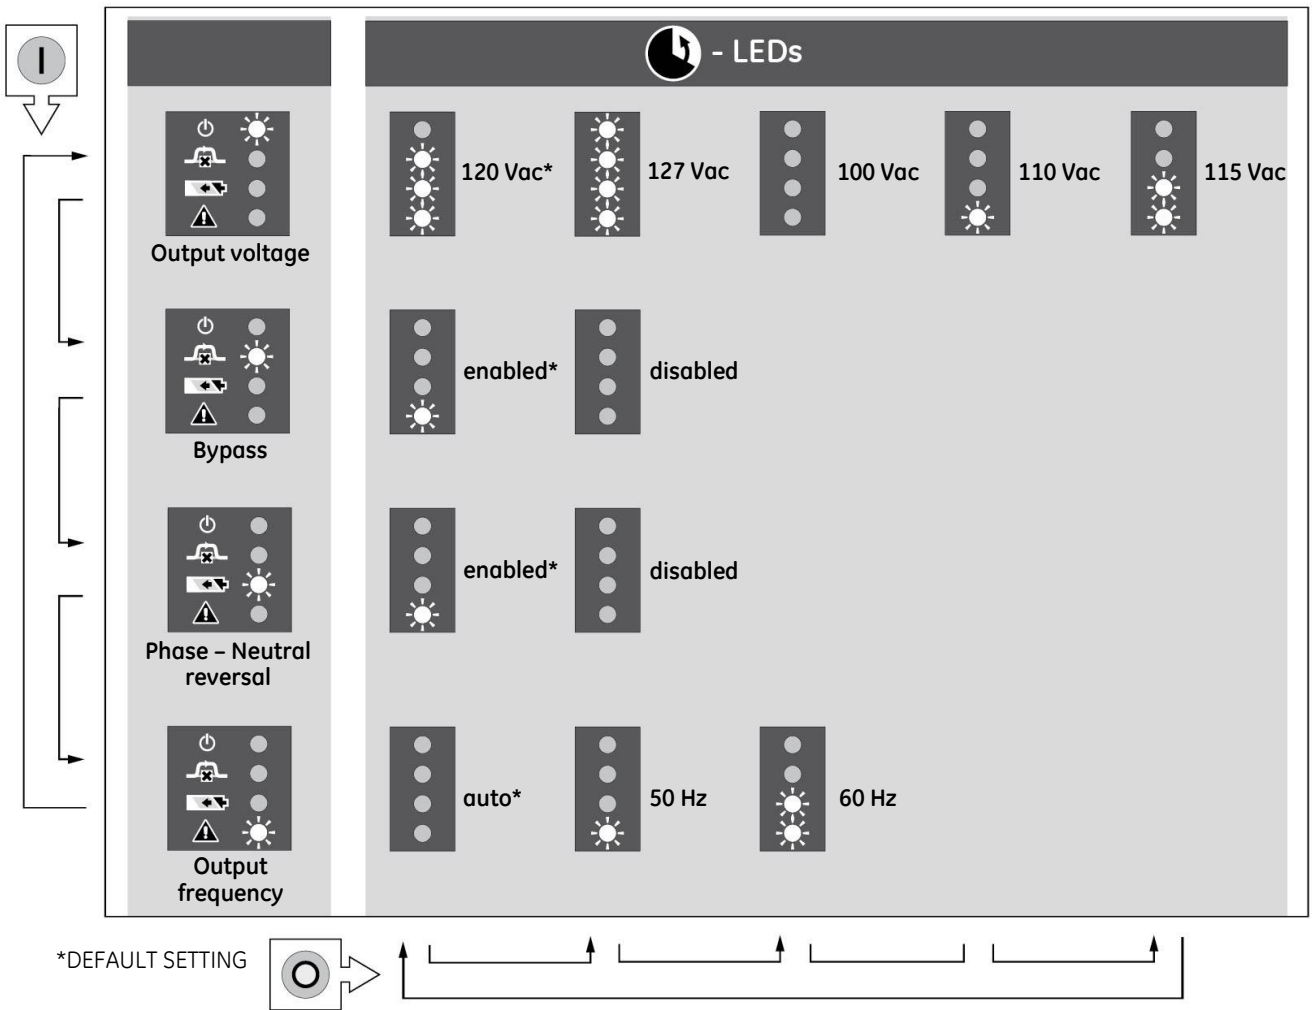

Fig. 4.5: Setup menu
- 2 Scroll through the four functions with keypad 'I', one of the LEDs 'operation', 'on bypass', 'on battery' or 'alarm' will blink, indicating which function has been selected (see fig. 4.5).